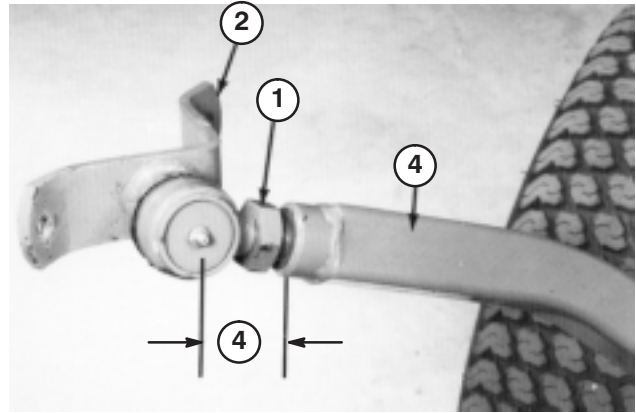

Figure 12
2. Screw ball joint into right hand push arm until center of ball joint is 2-3/8 in. (60 mm) away from front of push arm (Fig. 12). Do not tighten jam nut.